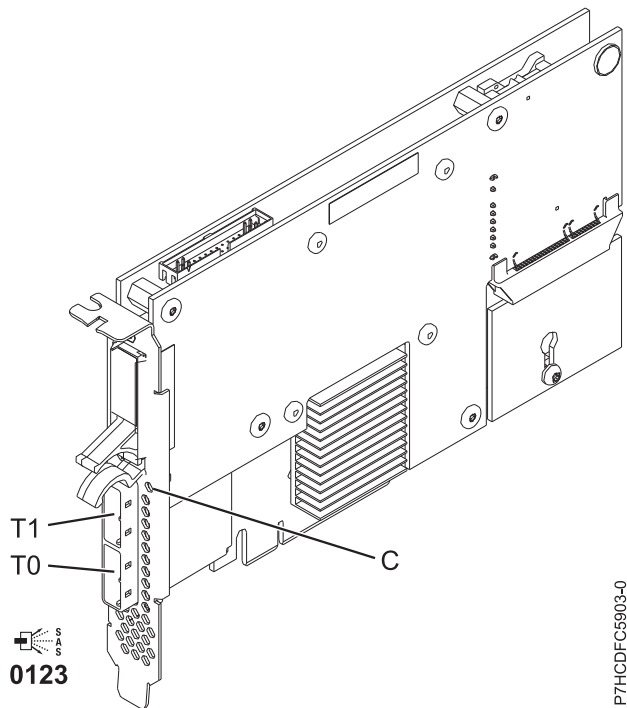

Figure 59. PCIe Dual - x4 3 Gb SAS RAID Adapter
The 5903 or 5805 contains a LED ((C) in Figure 59) that flashes if the cache data is present. The cache-data present LED flashes when there is possible data in the cache on the adapter. If the cache data present LED is flashing, do not replace the cache battery pack. If replaced when the LED is flashing, the cache data is lost. See Figure 59 to locate the cache-data present LED on this adapter.